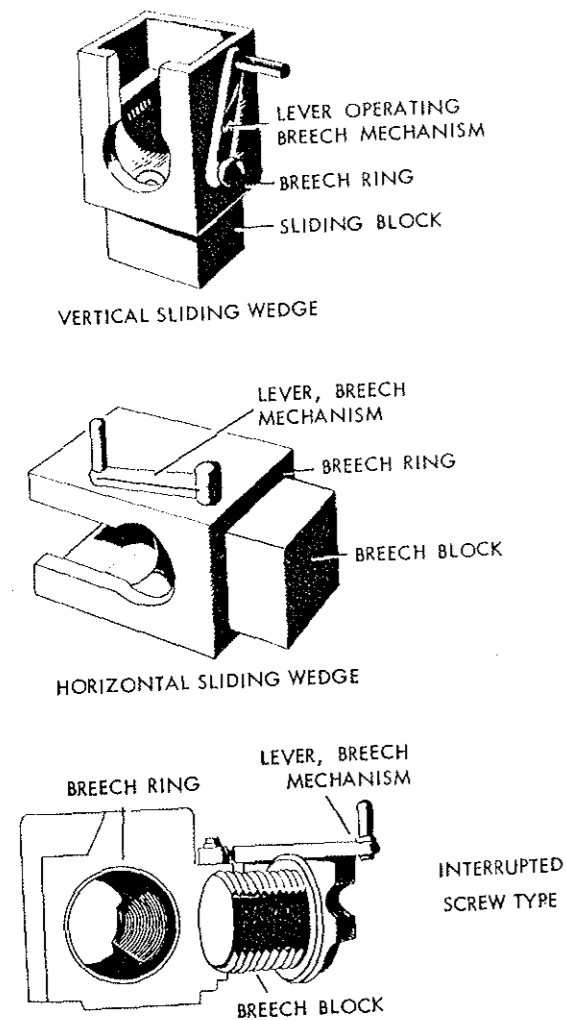

Figure 12.
1. What type of breech mechanism is used (fig. 12)? Is the gun fired by a lever, or electrically, or both?